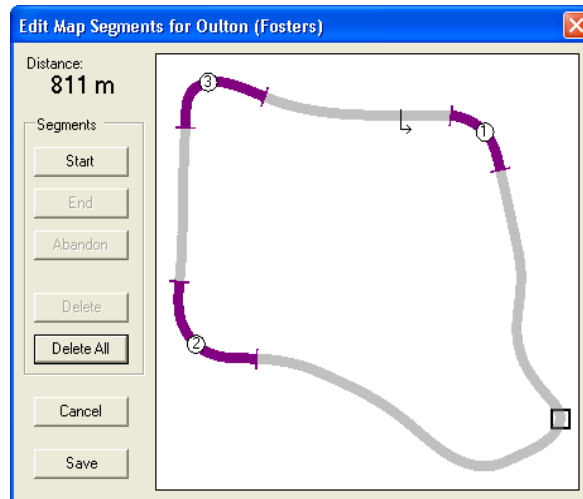

Figure 27 - Edit Map Segments Dialog (Segment Deleted)
4. Click **Delete**. The segment is removed from the map (see Figure 27).